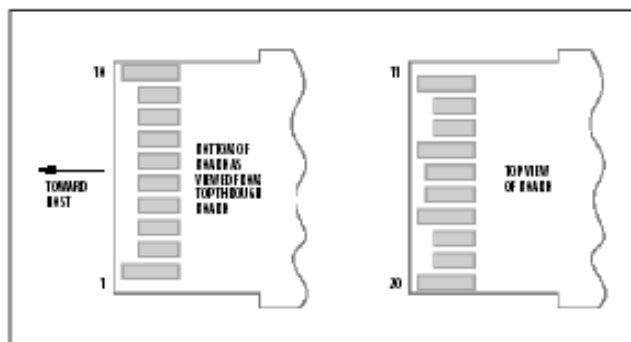

Figure 2. Module edge connector contacts
The 2GACSM-00*G-EF interfaces with the host circuit board through the twenty contact SFP+ electrical connector. See Table 2 for contact descriptions. The device edge connector is shown in Figure 2. The 2GACSM-00*G-EF high speed transmit and receive interfaces require SFF-8431 compliant signal lines on the host board. The TX_DISABLE and RX_LOS signals require LVTTTL signals on the host board (per SFF-8431) if used. If an application does not take advantage of these functions, care must be taken to ground TX_DISABLE to enable normal operation.
2. This is an open collector/drain output that on the host board requires a 4.7 kΩ to 10 kΩ pullup resistor to VccHost. See Figure 2.